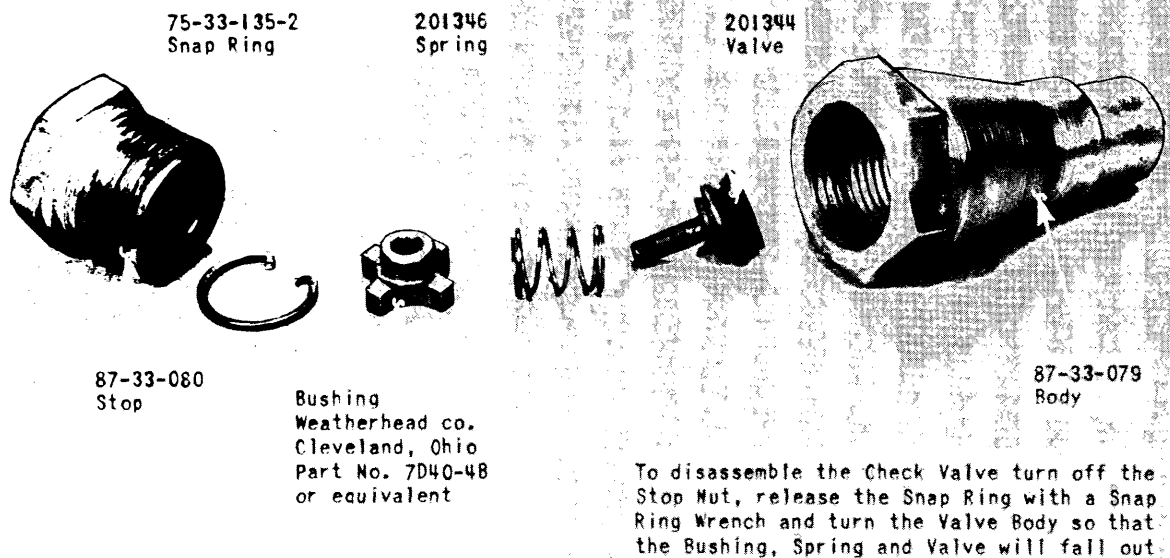

Figure 191 - Hydraulic Check Valve Disassembled
(1) Insert the check valve in a vise with aluminum covered jaws at the nut face on the upper end of the valve body. Turn the stop nut off the valve with a suitable wrench.
(2) Pull the snap ring with a snap-ring wrench or a pair of light pliers.
(3) The bushing, spring, and valve will now fall out when the valve is released from the vise and turned bottom side up. (See figure 191.)